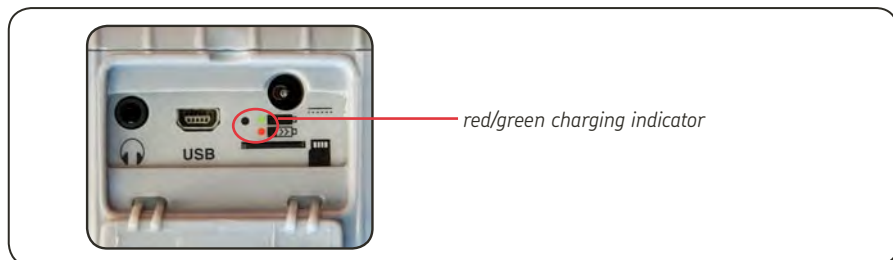

Figure 2. Connection ports
- The TKTI 10's battery can be charged in the camera by connecting the supplied 12V power supply unit into the DC socket in the hatch of the thermal camera (see figure 2; connection ports).
- The red led indicates that the camera is charging. The green led means that the camera is fully charged (see figure 2).